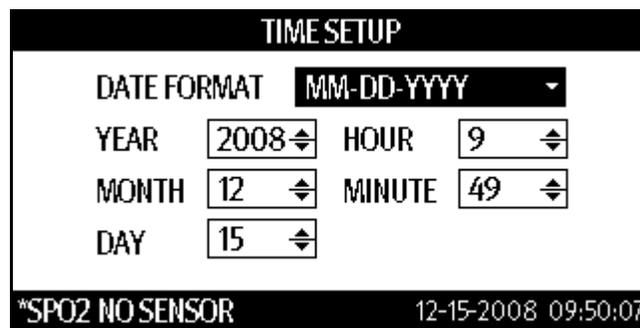

FIGURE 3-25 Example TIME SETUP Dialog
2. Press  (16) or  (19) to select **TIME SETUP**.
3. Once **TIME SETUP** is highlighted, press  (18) to display the TIME SETUP dialog as shown in FIGURE 3-25.
4. Press  (16) or  (19) to highlight a property to set.
5. Once the property is highlighted, press  (18) to select it.
6. Press  (16) or  (19) to change the value in the selection.
7. Once the desired value is displayed, press  (18) to set it.
9. Once the values are set, press  (12) to exit to the SYSTEM SETUP dialog.
10. Press  (12) to exit to the Trend display.